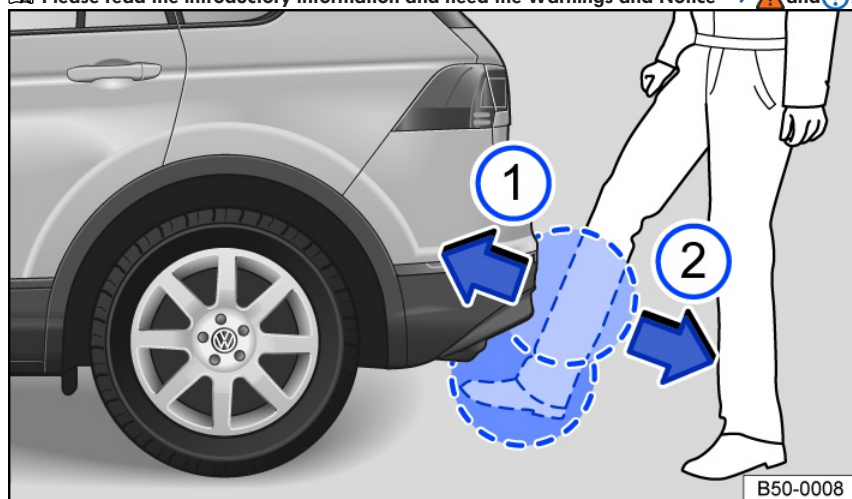

Fig. 65 Trunk lid with sensor-controlled opening (Easy Open).
- Quickly swing the lower part of your leg close to the bumper. Your shin must be near the upper sensor and your foot must be near the lower sensor fig. 65.